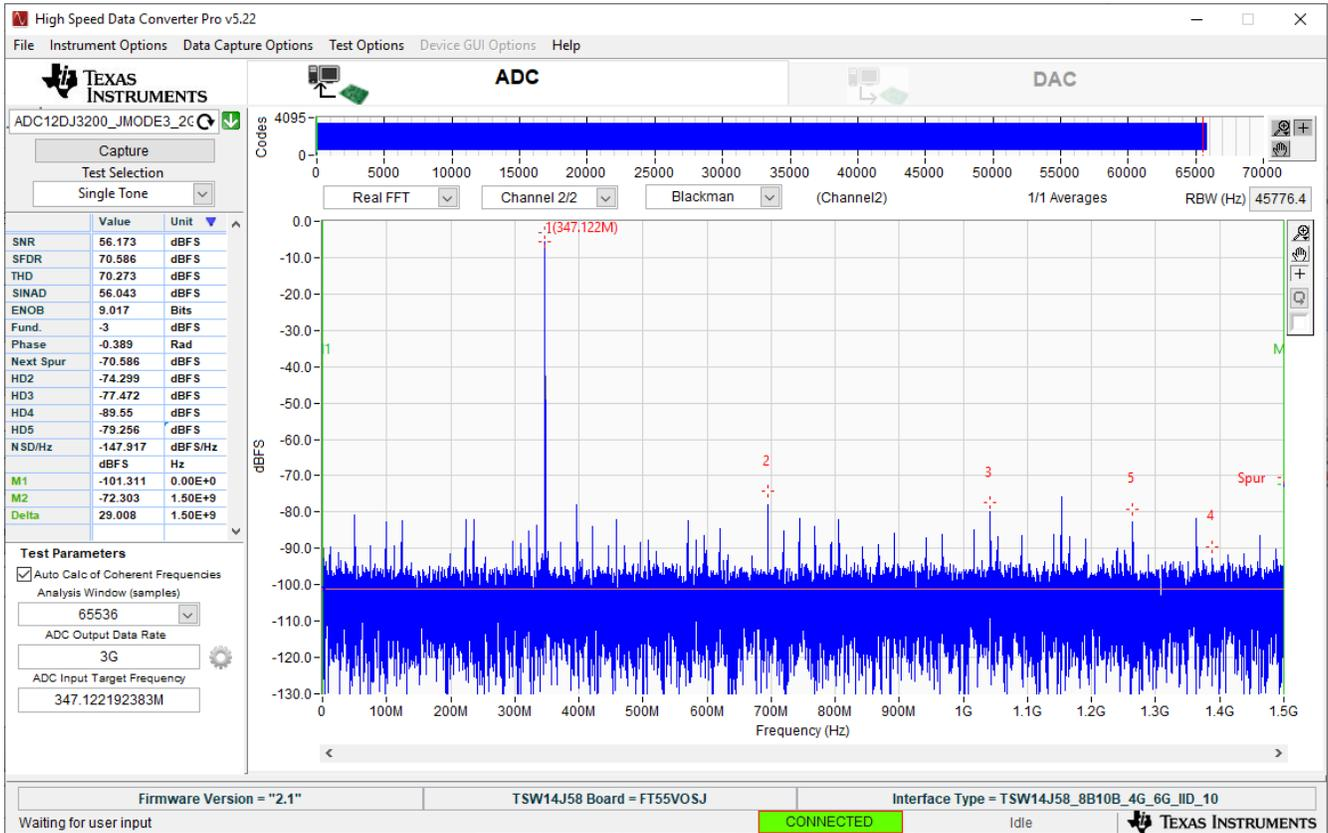

Figure 6-4. ADC12DJ3200 Operating in JMODE3 at 3 Gps with 347-MHz Input Signal
5. Select the number of sample points (and resulting number of FFT bins) to be used. The example shown in Figure 6-4 has 65536 samples.
6. Enter the ADC12DJ3200 sampling rate. The example shown in Figure 6-4 has the sample rate set at 3 Gsps.
7. Enter the input frequency desired. The example shown in Figure 6-4 has the filtered input frequency set at 347 MHz and -3 dBFS on the HSDC Pro FFT plot.
10. Observe an FFT result similar to that of Figure 6-4.